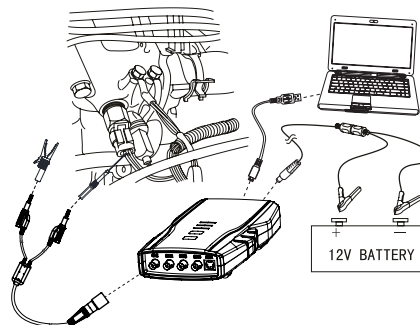

Fig. 15: Equipment connection
1. Connect equipment according to Fig.15, switch on power supply.